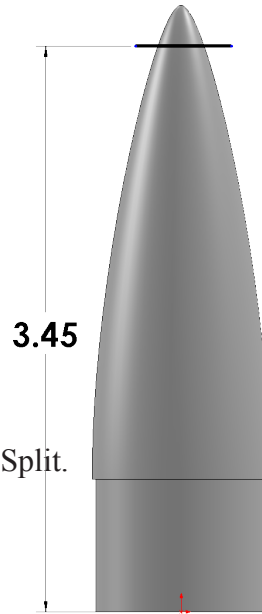

Fig. 11
Step 4. Sketch a horizontal line below top of Nose Cone, **Fig. 11**.
Step 6. Add **3.45** dimension, **Fig. 11**.